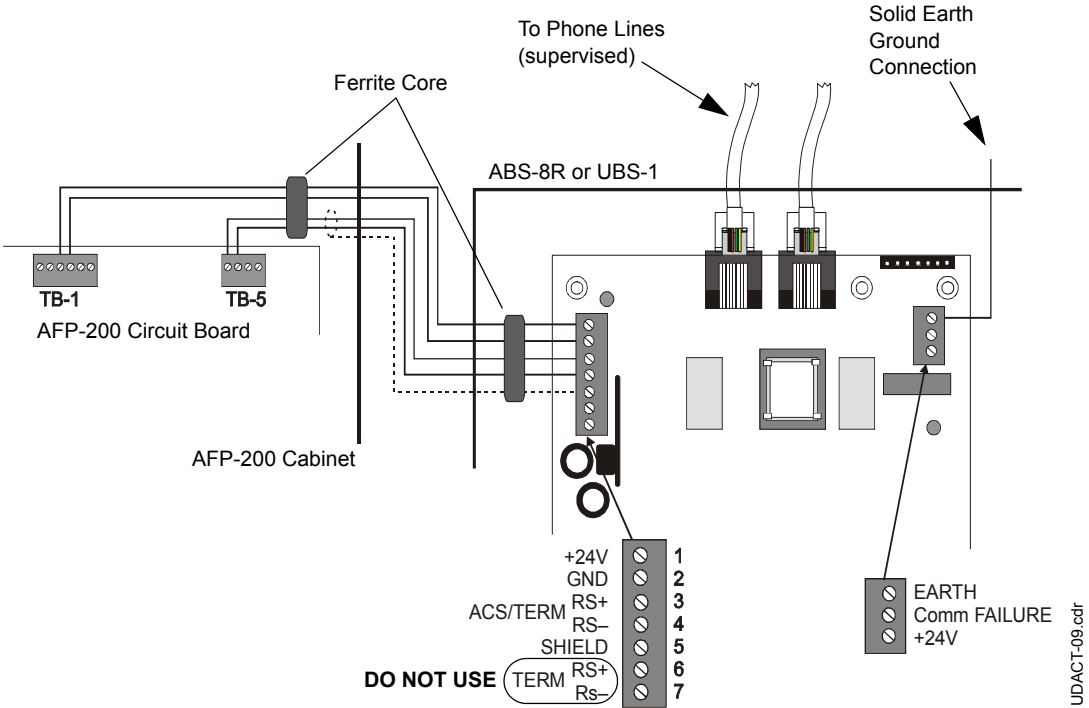

Figure 17 UDACT and AFP-200
Refer to Figure 17 on page 72.
2. Recommended wire is 12 AWG (3.25mm²) to 18 AWG (0.75mm²) twisted pair, shielded cable. Connect only one end of shield: a) shield may be connected to cabinet (earth ground) at fire alarm panel, or b) shield may be connected to TB1 Terminal 5 (Shield) at UDACT as shown in Figure 17.